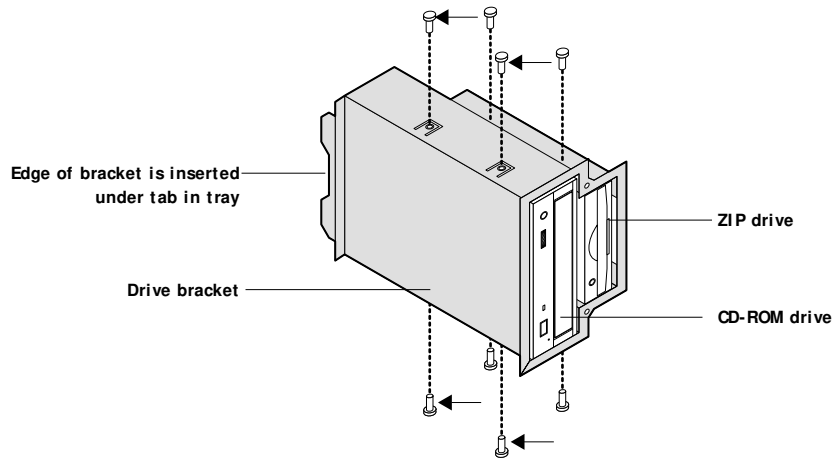

FIGURE 4-34 Replacing the CD-ROM drive
2. Attach the four screws that secure the CD-ROM drive to the bracket (see Figure 4-34).